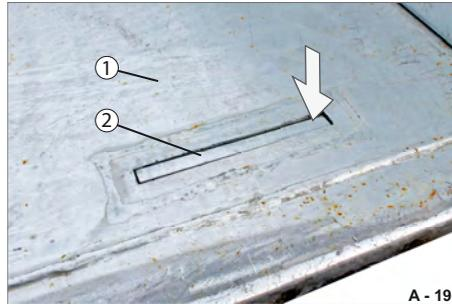

Fig. 207 Blade lashing shackle sunk
- ▶ Press the blade lashing shackle (Fig. 207/2) down from the corner and pull it out from the other side. The blade lashing shackle stays vertical.